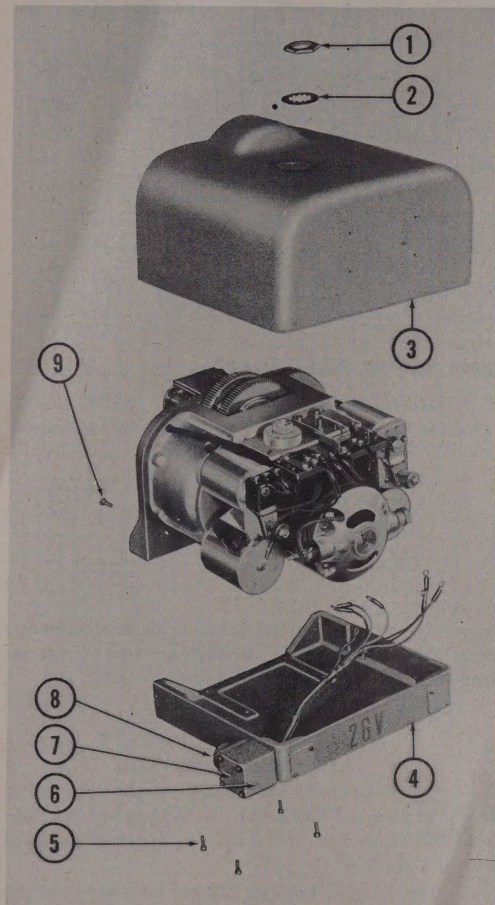

Figure 323 — Exploded View of Cover and Base Assemblies
(1) REMOVE EXTERIOR COVER ASSEMBLY. (See figure 323.)—Remove the thin hex nut (1) and large internal tooth lock washer (2) which secure the servo unit exterior cover assembly (3) to the unit. Remove the cover assembly.
(2) REMOVE AND DISASSEMBLE SERVO UNIT BASE ASSEMBLY. (See figure 323.)